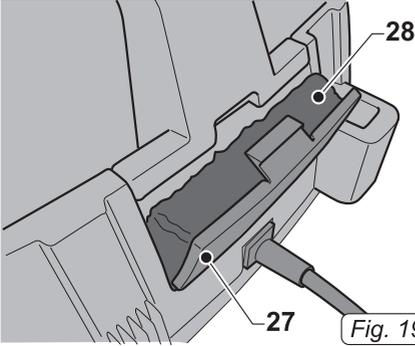

Fig. 19
- Remove the filter sponge (28 Fig.19) from the flap (27 Fig. 19) and clean it with a blast of air .